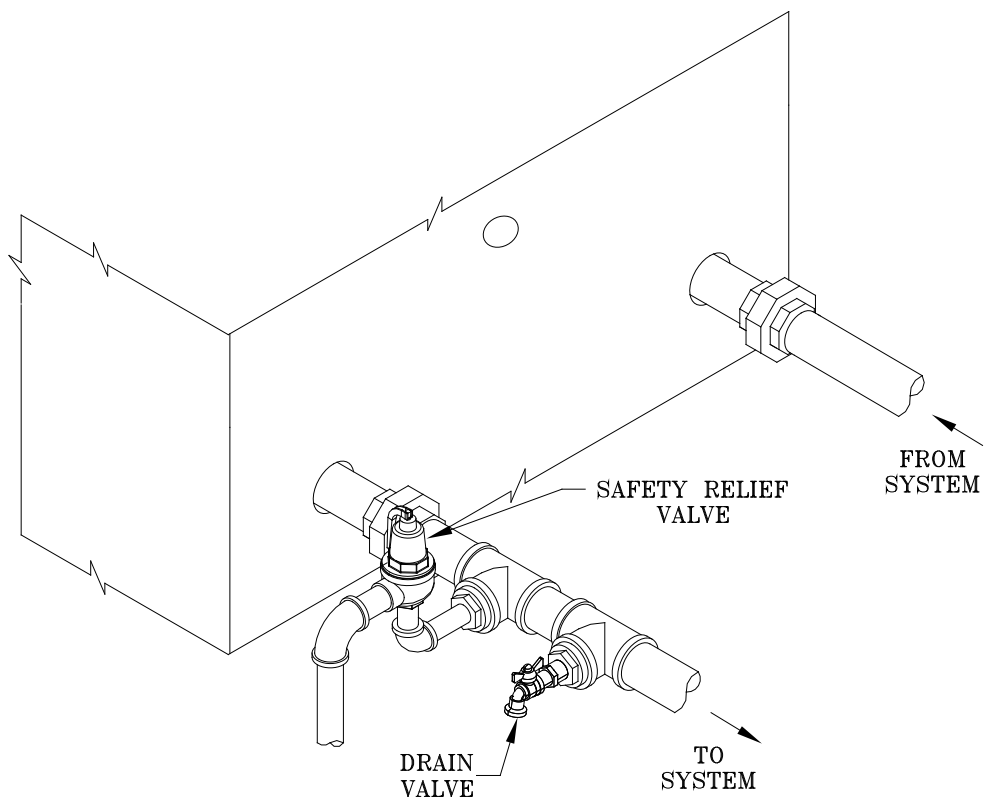

Figure 13: Safety & Drain Valve Installation
5. A pressure relief valve is supplied with each appliance. No valve is to be placed between the relief valve and appliance. No reducing coupling or other restriction shall be installed in the discharge line. See Figure 13.
7. Install the drain valve provided with the appliance at the lowest elevation. See Figure 13.